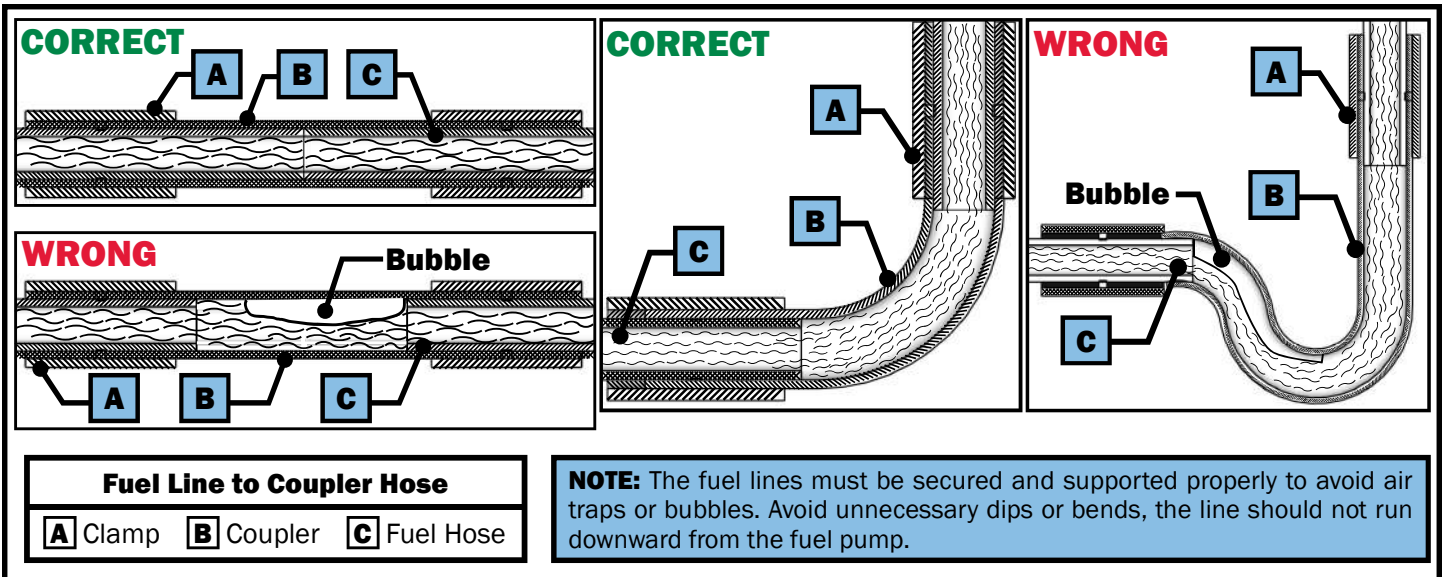

Figure 83
- Use the provided 5mm x 1mm fuel line with the included couplers and clamps. Reference Figure 83.